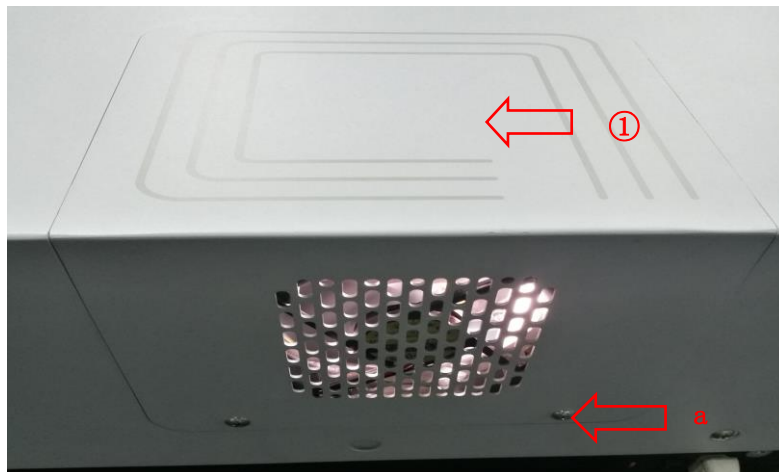
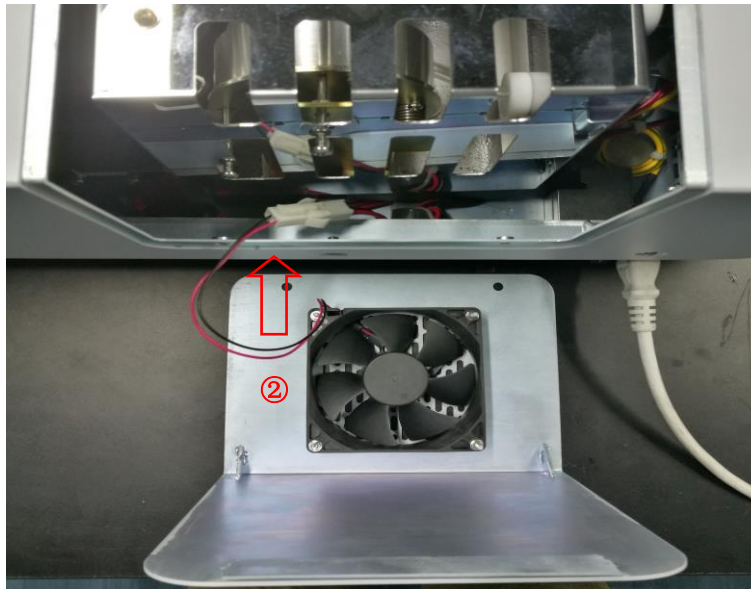
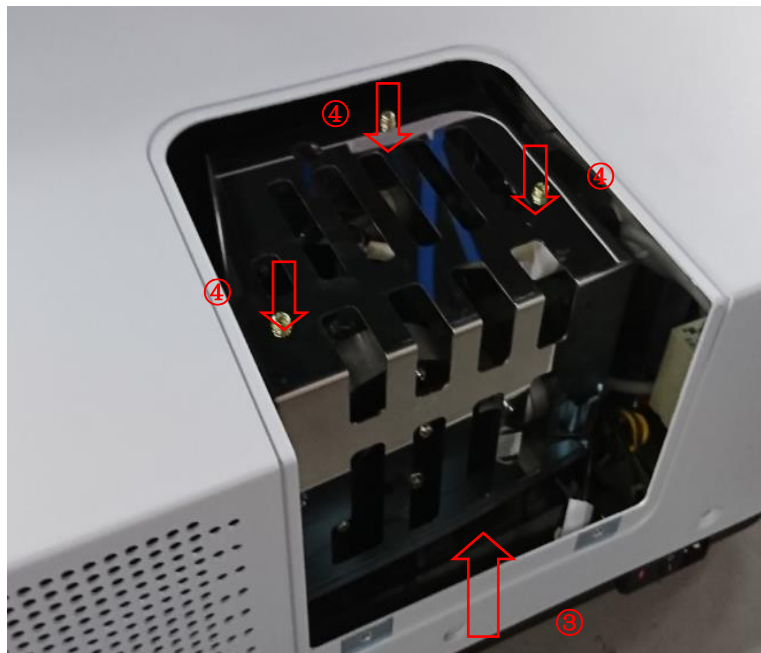

Figure 1-2 Remove the outer cover of the lamp compartment
Figure 1-3 Pull out the connection line from the fan wire interface
Figure 1-4 Remove the outer cover of the lamp compartment
- 1) Remove 2 screws a on the outer cover of the lamp compartment ① and detach the outer cover from the instrument (Figure 1-2). Then disconnect the socket to the fan ② (Figure 1-3);
- 2) Remove 3 screws ④ on the inner cover of the lamp compartment and detach the inner cover ③ from the lamp compartment (Figure 1-4);
- 6) Tighten 3 screws on the inner cover and return them to the status shown in Figure 1-4. At this stage, turn on the power supply and check and optimize the energy of the lamp according to Chapter 1.6. After optimizing the lamp energy, connect the power cord of the fan ② on the outer cover of the lamp compartment (Figure 1-3). Install the outer cover of the lamp compartment with 2 screws to the status shown in Figure 1-2. Turn on the instrument and start using it.